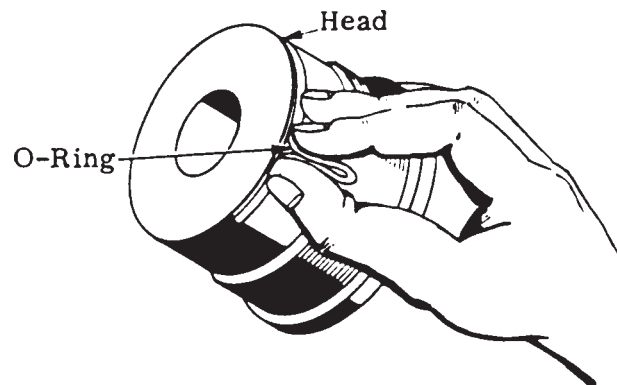

FIGURE G-3. O-RING REMOVAL
10. Work a slack section into the head seal static o-ring (item 6) and pick it up out of the groove (Figure G-3). Lift the static back-up out of its groove with the needle-nose pliers.